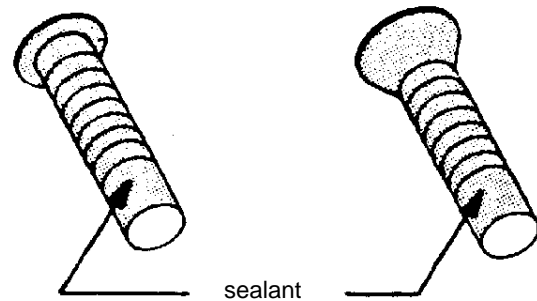

Figure 6 - Application of Sealant
- 5.6.1 Unless otherwise specified, wet install all sleeves as shown in Figure 6 using DHMS S3.06, Type I, Class C-80 sealant, prepared according to PPS 21.20.